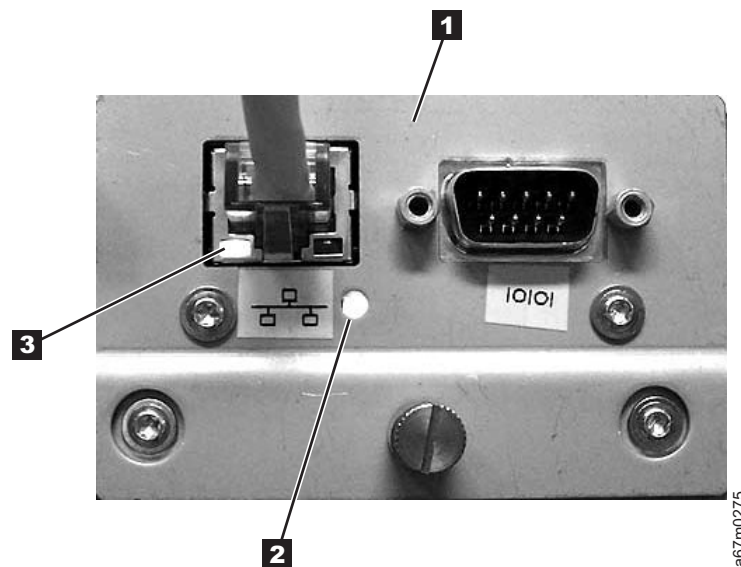

Figure 80. RMU
5. Refer to Figure 80. When the library power is switched ON, LED **2** will cycle from RED to AMBER to GREEN during the Power On Self Test (POST) and library initialization.